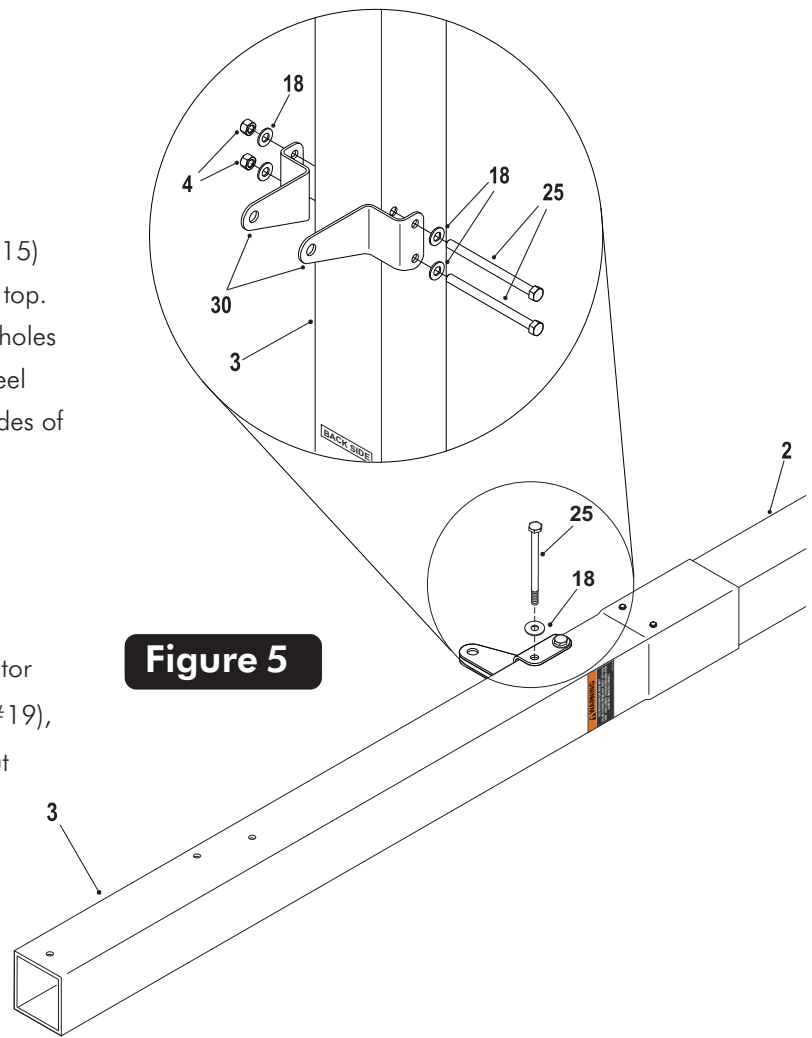

Figure 5
- Attach Post Ears (#30) to holes near the bottom of Top Post (#3) using two Hex Bolts (#25) four Washers (#18) and two Lock Nuts (#4). Do not tighten nuts (#4) completely until instructed to do so. See **Figure 5**.